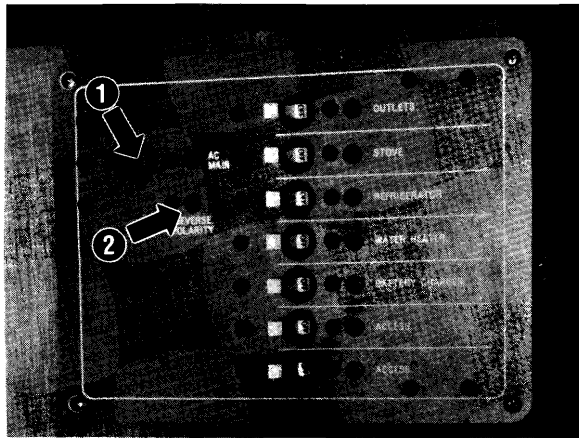

Figure 27
If after making a shore power connection, the polarity light illuminates red (1), do not activate the “AC Main” switch (2). See figure 27. The red light is a warning of trouble. Investigate the cause immediately.